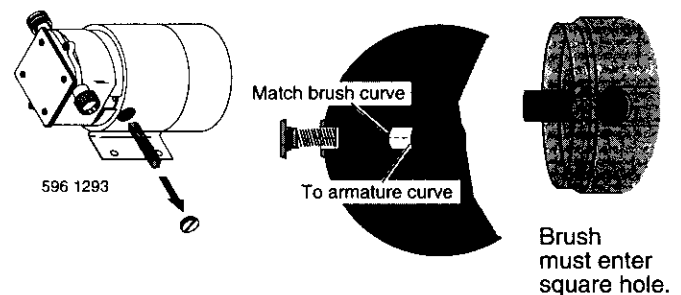

Figure 1 - Brush Replacement
- Slide new brushes into motor. Brush must slide into square-cut hole in motor; make sure that curve on brush end matches curve of commutator (see Figure 1).